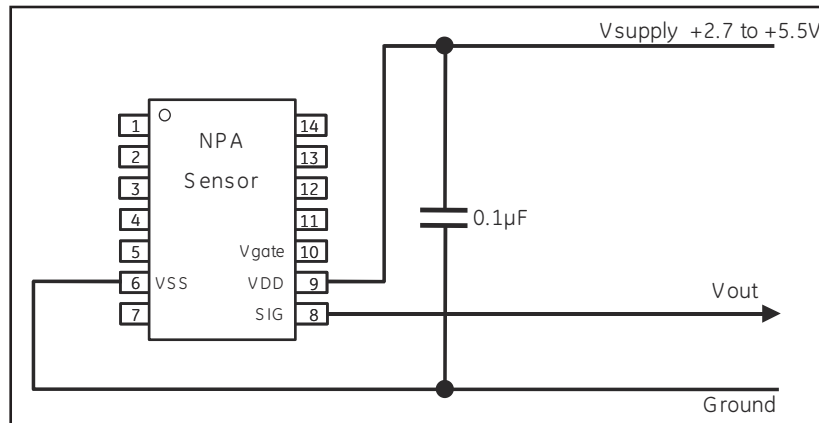
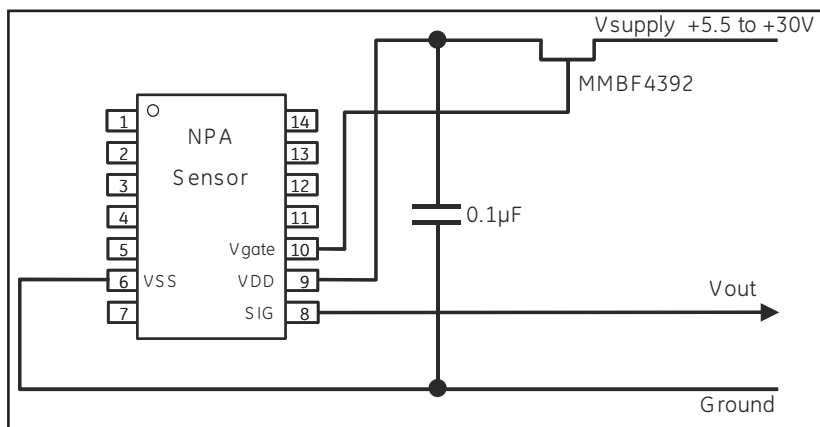

Figure 4: Ratiometric Voltage Output
Figure 5: Absolute Voltage Output
**Note:** Standard analog versions of NPA are configured for ratiometric operation as shown in Figure 4. For the circuits in Figures 5 and 6, a special version of the NPA with pin 10 (Vgate) activated should be used.